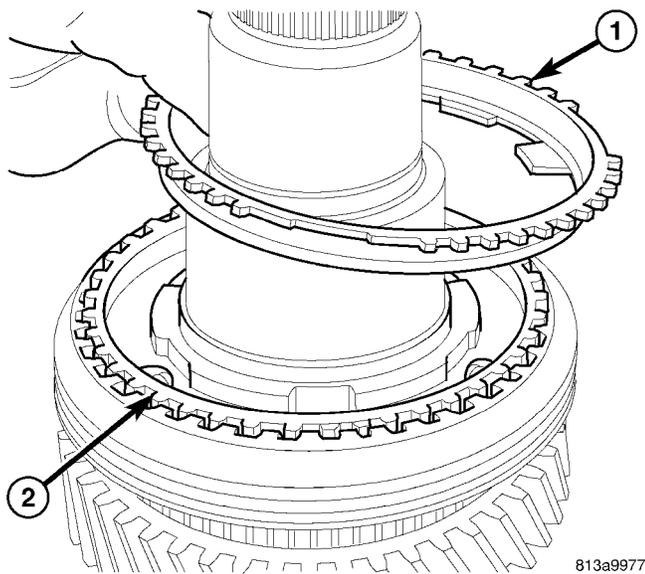

Fig. 67 FIRST GEAR OUTER BLOCKER RING
(11) Install first gear blocker ring (1) (Fig. 67) into synchronizer hub (2).